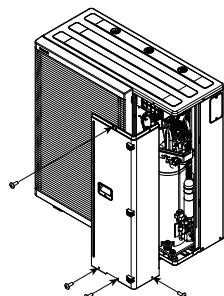

Fig. 4-1
- ① Retire la tapa frontal (Fig. 4-1)
- ⑦ Coloque la tapa frontal (Fig. 4-1)